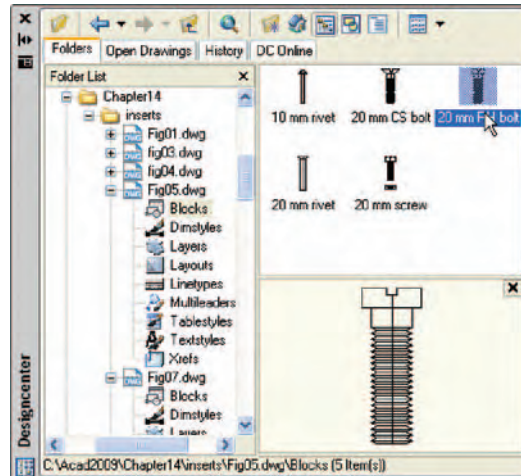

Fig. 14.6 Second example – a library of fastenings
Second example – a library of fastenings (Fig. 14.6)
- Open the **DesignCenter**, *click* on the **Chapter 14** directory, followed by a *click* on **Fig05.dwg**. Then *click* again on **Blocks** in the content list of **Fig05.dwg**. The five 3D models of fastenings appear as icons in the right-hand side of the **DesignCenter** (Fig. 14.6).